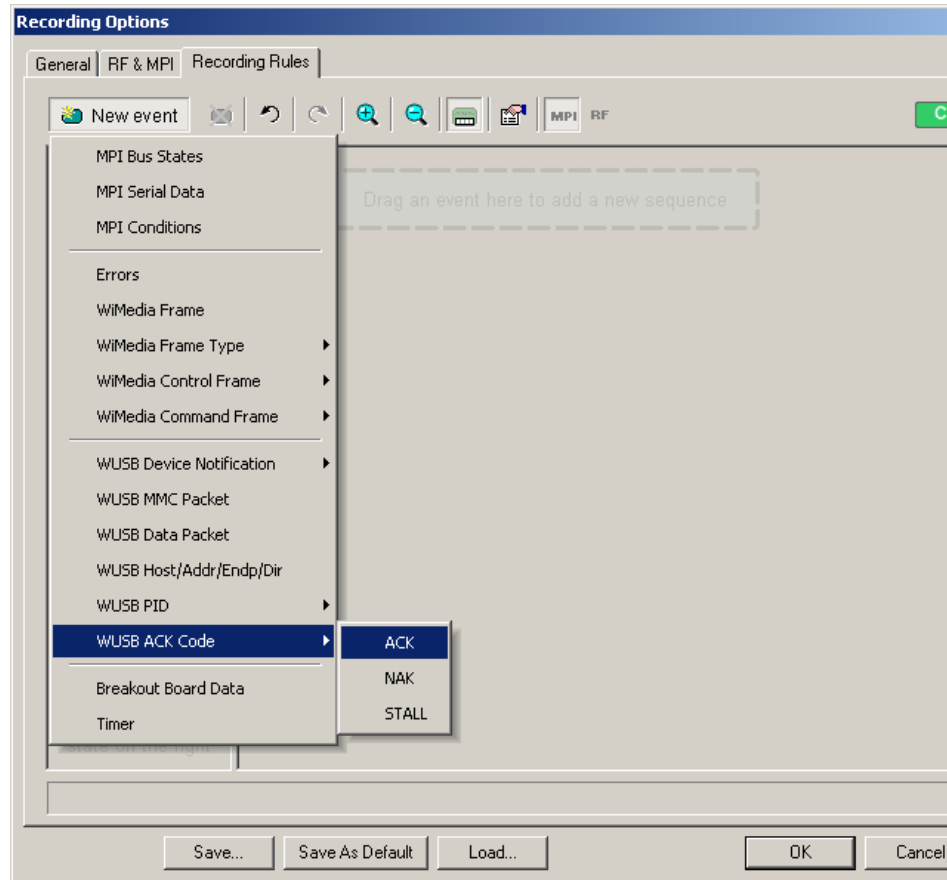

Figure 7.19 Example 1: Creating the Event
Step 1 Click the **New Event** button. From the drop-down menu, select **WUSB ACK Code > ACK** (Figure 7.19).